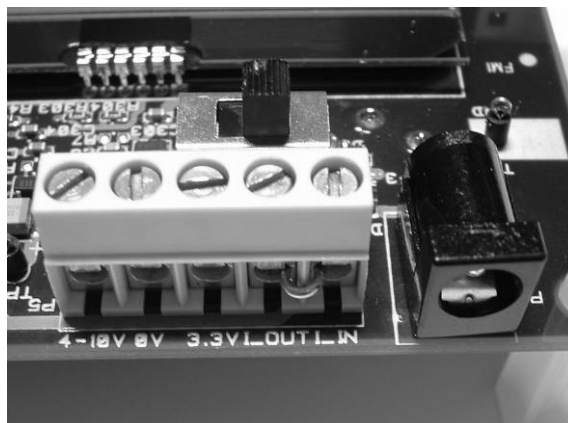

Figure 1. Power Terminal Block
- DC power from a laboratory power supply or battery eliminator power supply. The DC jack connector accepts standard DC jack power connectors with a 2.5 mm center pin. The center pin is used for the positive voltage, and the sleeve for ground. If a laboratory power supply is used, ground should be connected to the 0 V terminal on the power terminal block (see Figure 1).